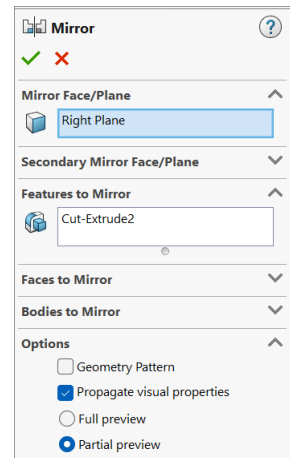

Fig. 37
- Step 3. In the Mirror Property Manager click OK , **Fig. 37**.